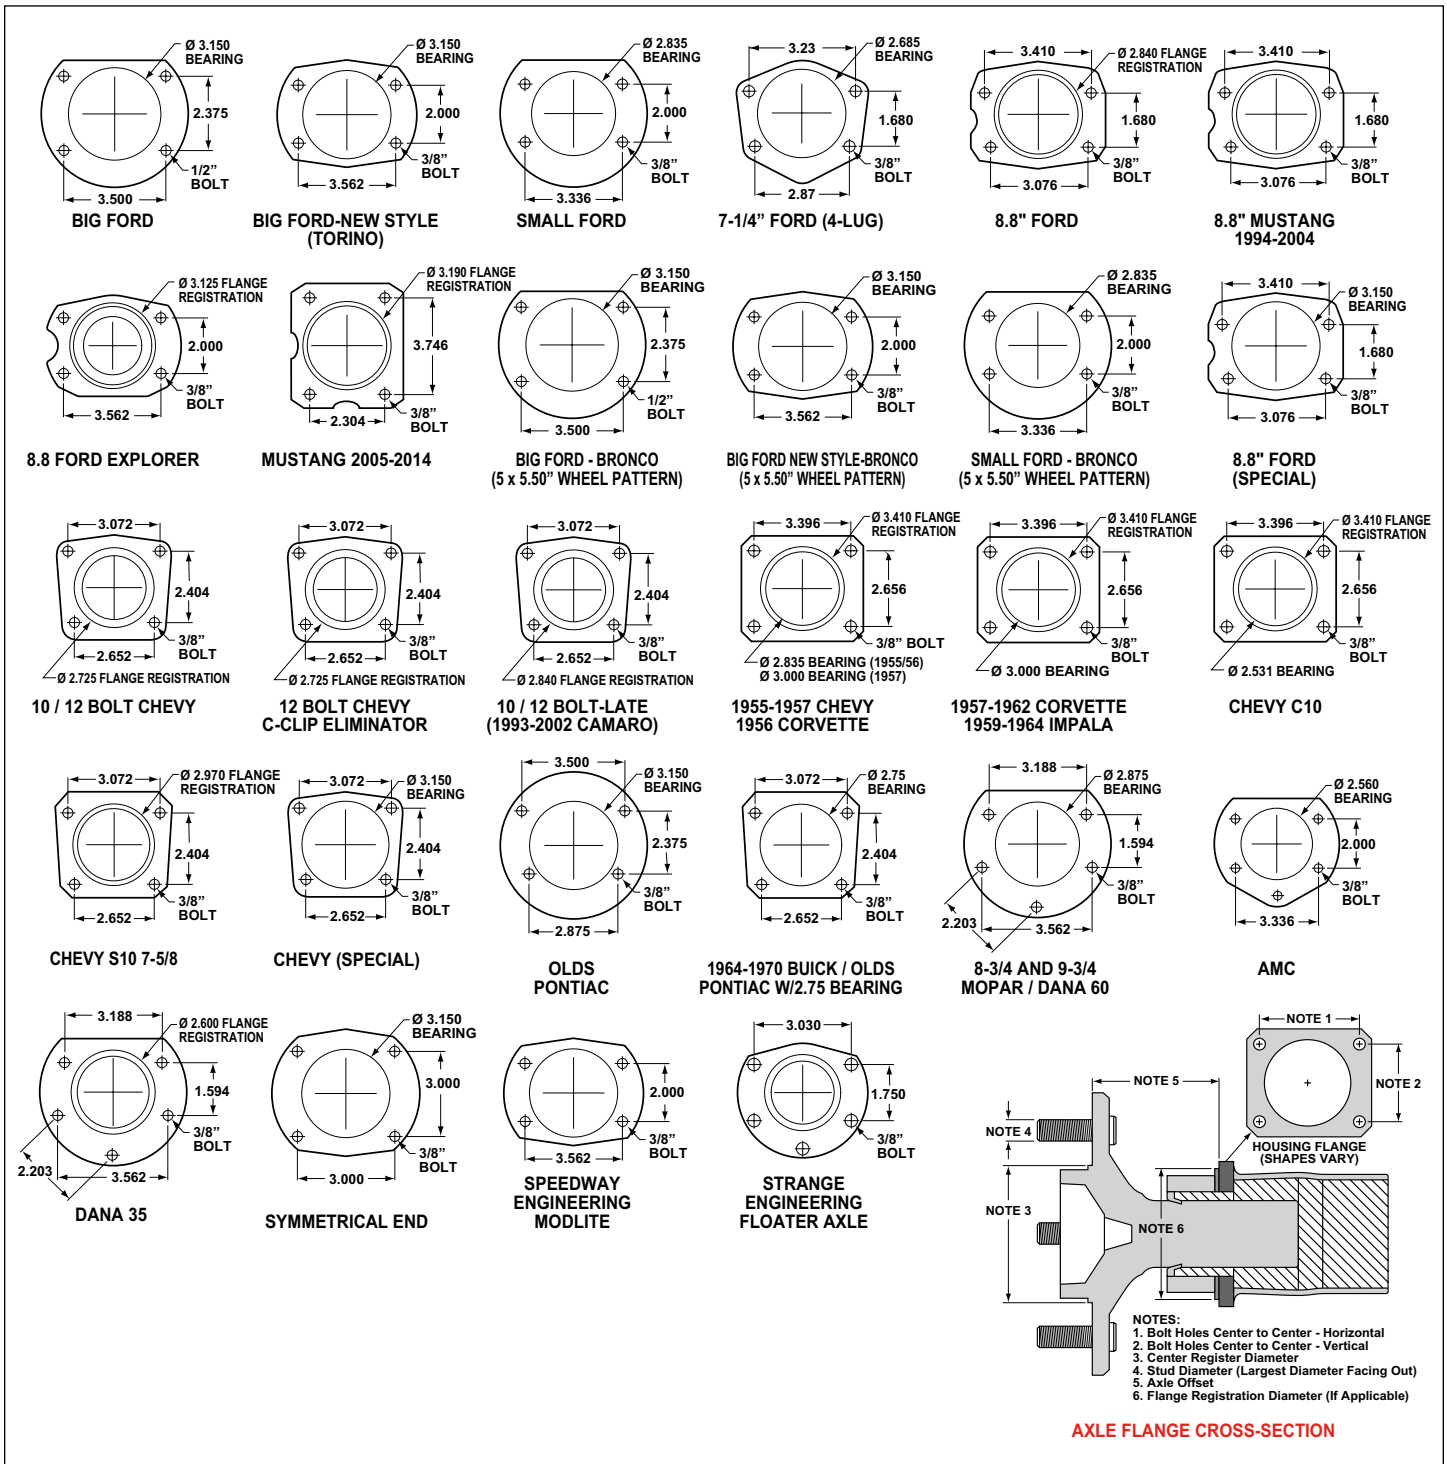

Figure 6. Rear Housing Flange Chart and Axle Flange / Offset Cross-Section
•Make sure this is the correct kit to fit the axle housing flange, not necessarily the rear end make. Many times aftermarket manufacturers put a different make of axle housing flange on the stock rear end housing (Figure 6). Example; Big Ford rear ends with Olds-Pontiac flanges, therefore, an Olds-Pontiac rear disc brake kit would be the correct kit to order. Also, shock clearance may be a problem. They may have to be modified and/or relocated to clear the Wilwood kit after final assembly.
•Dimension from wheel side of axle flange to wheel side of axle housing flange (see Figure 6, lower right hand corner). This dimension is critical to ensure proper alignment of the rotor to the caliper, and should match offset given in the kit description.